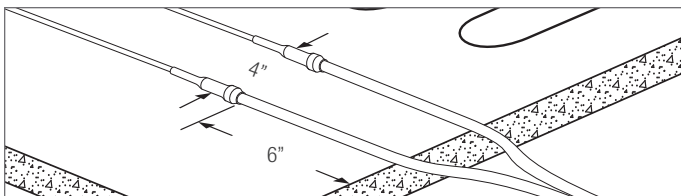

FIGURE 2.61b: Cold Lead Positioning
5. Space second hot/cold joint at least 4" (100mm) away from first hot/cold joint and 6" (150mm) in from the edge of the slab. See Figure 2.61b.